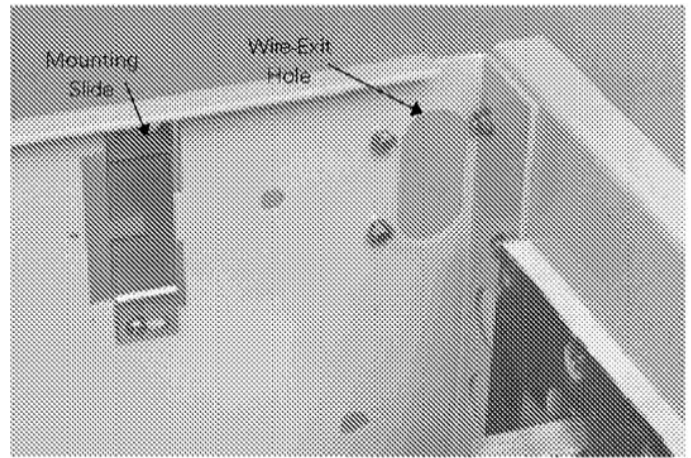

Figure 7. Inside rear corner of the type 2 draw out substructure showing the wire exit hole and the mounting slide
1. Install the 6.38-inch-long grommet into the oblong wire-exit hole shown in Figure 7.
2. Loosen, but do not remove, the two #10 screws holding the mounting slide, shown in Figure 7, just enough to loosen the slide. Move the slide forward in the Substructure to make room for the Secondary Disconnect mounting feet.